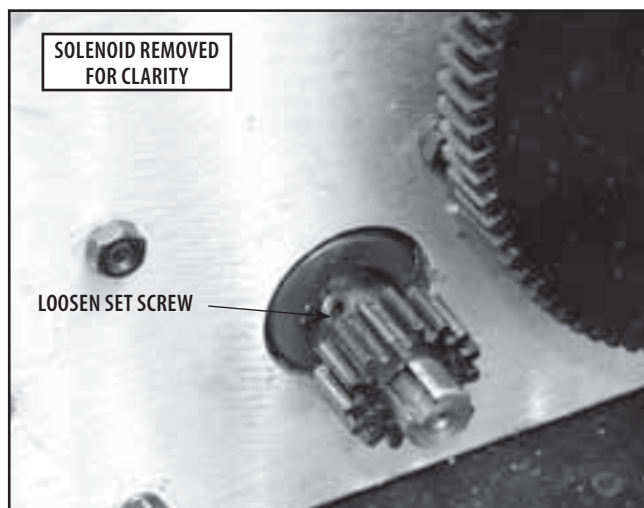

FIGURE 6.60
3. Rotate Motor until Drive Gear Set Screw is accessible. See Figure 6.60.